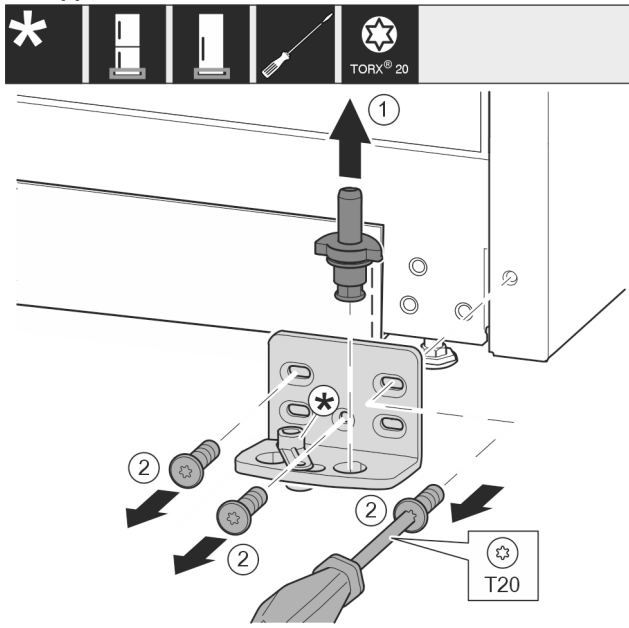

Fig. 10
- ▶ Lift the bearing pin completely upward and remove it. Fig. 10 (1)
- ▶ Remove the screws with the T20 screwdriver and take off the bearing bracket. Fig. 10 (2)